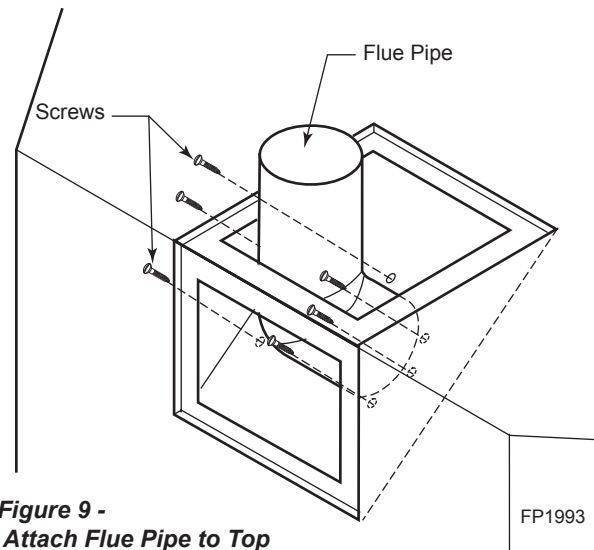

Figure 9 - Attach Flue Pipe to Top Vent Configurations
5. Replace flue pipe to top of firebox. Ensure the gasket is in place and undamaged. Secure with six (6) screws. *Figure 9*